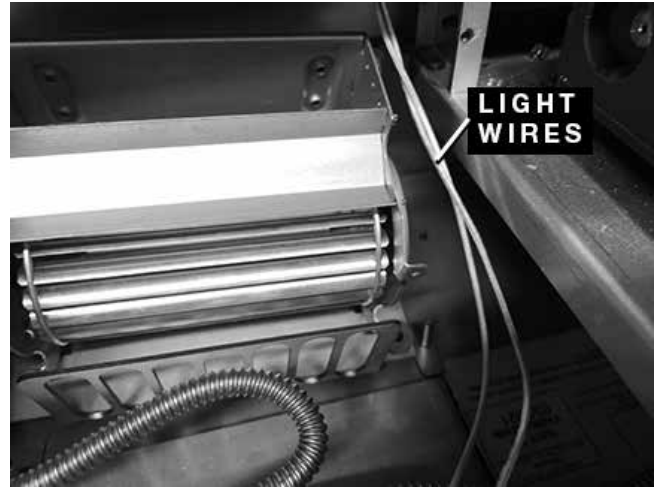

Figure 65: Light wires clear
11. Ensure the wires for the lights coming down from the back are routed around the blower assembly and not pinched or caught in the blower assembly. Figure 65